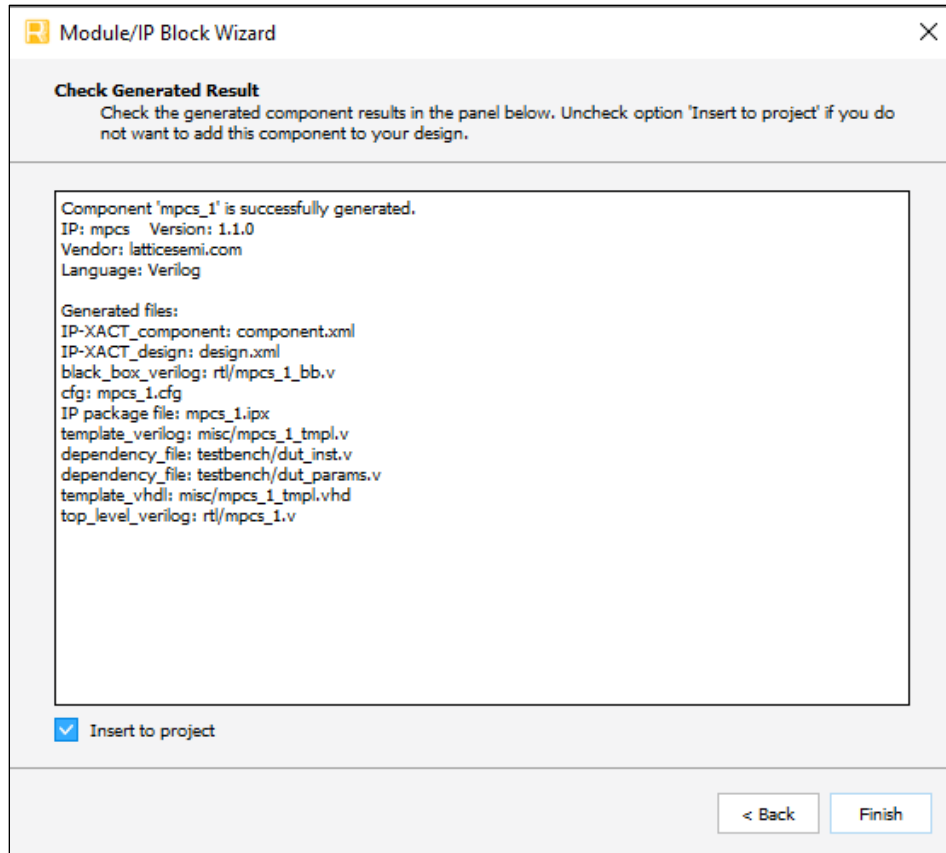

Figure 7.3. Check Generated Result
5. Click **Generate**. The **Check Generated Result** dialog box opens, showing design block messages and results, as shown in Figure 7.3.